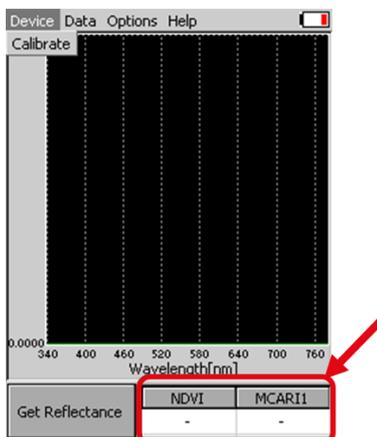

Fig. 5 Indices table.
**Indices table** displays a group of selected indices calculated for actual measured data (Fig. 5). To define the indices of interest, go to **Options > Settings > Indexes**. You can **select two indices** that are currently displayed. However, all indices are calculated and stored in the device memory. Entire list of the indices can be displayed after a data download to PC. The software also allows a calculation of custom indices defined by user (please refer to page 30).